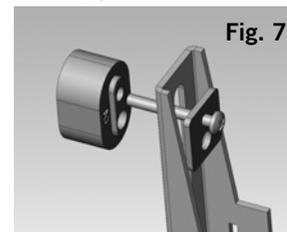
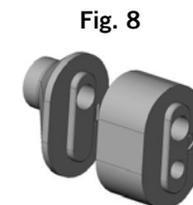
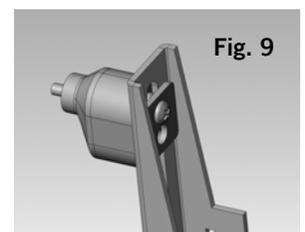

Fig. 7
Fig. 8
Fig. 9
The 3/4" spacer (M) may be used by itself (Fig. 7), or in combination with the 5/8" spacer (L), for even greater depth. Stack the two spacers (Fig. 8), and then install them between the display and the mounting rail. (Fig. 9)